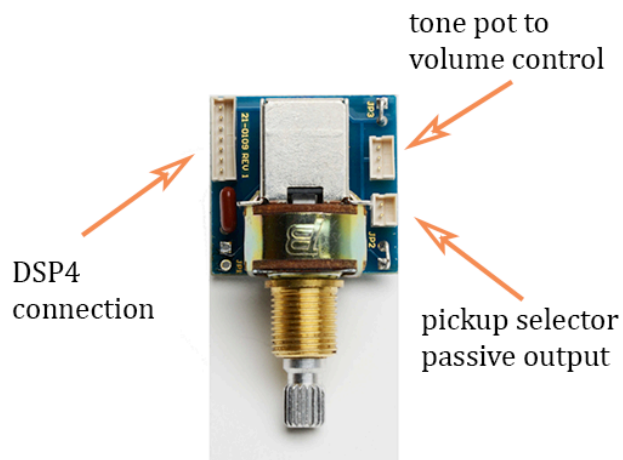
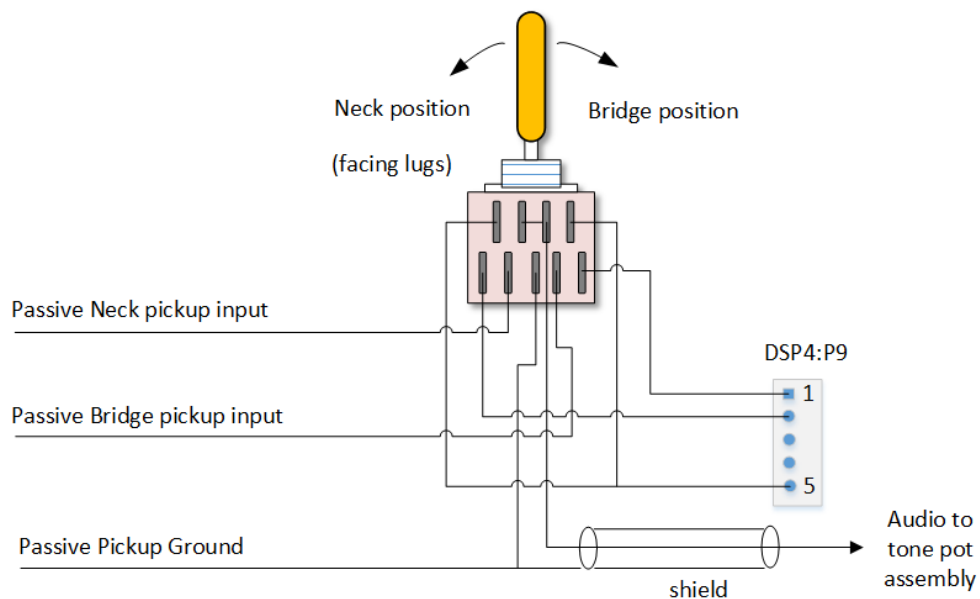
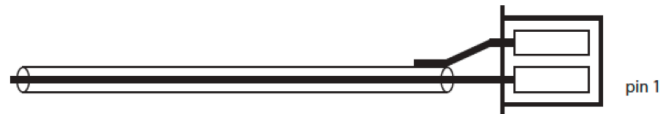
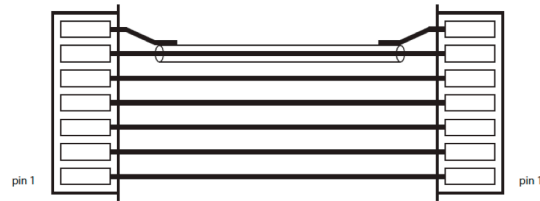

Fig 3.2 - Tone Pot circuit board
Fig 3.9 - Les Paul® three position pickup assembly
Fig 3.14 - Selector to Tone Pot cable
Fig 3.15 - Tone Pot to DSP4
For Les Paul®: Solder the “Pickup Selector pigtail” and “Selector to Tone Pot cable” to the Pickup Selector. Solder jumpers between lugs on the Pickup Selector as shown in Fig 3.9. Feed cables through cavities and connect to the DSP4 and Tone Pot. Install the passive pickups and solder their cables to the Pickup Selector as shown in Fig 3.9.
Step 6: Pickup Selector to DSP4 circuit board: Identify the 3 or 5 position Pickup Selector pigtails shown in Fig. 3.12 and 3.13, respectively. Note, they both have a five-pin plug. Cut the wires to the correct length and solder them to the Pickup Selectors as shown in Fig. 3.9, 3.10 or 3.11, respectively. **(NOTE, THE SELECTOR FIGURES ARE DRAWN WITH THE PINOUT IN THE OPPOSITE ORIENTATION THAN THE PIGTAIL FIGURES. FOLLOW THE PIN NUMBERS.)**
Step 7: Pickup Selector to Tone Pot assembly: Identify the Selector to Tone Pot cable as shown in Fig. 3.14. This plug is connected to a shielded cable. This is the shielded cable shown in Fig 3.9, 3.10 and 3.11. Cut the cable to the correct length and solder to the Pickup Selector as shown. Note that two solder connections are required; the signal wire and the shield. The shield must be soldered to the "Passive Pickup Ground". It is this shield connection that connects the Passive Pickup Ground to the central Tone Pot ground.
Install the Selector to Tone Pot plug (Fig 3.14) into the "Pickup Selector passive output" two position header on the Tone Pot circuit board (Fig. 3.2).
Step 8: Tone Pot PCB to DSP circuit board: Install the Tone Pot to DSP4 jumper shown in Fig 3.15. Plug one end into the Tone Pot circuit board, (Fig 3.2) and the other into the "Tone Pot" connector on the DSP4 circuit board.
- 3) Install the plug into to the Tone Pot circuit board shown in Fig 3.2.